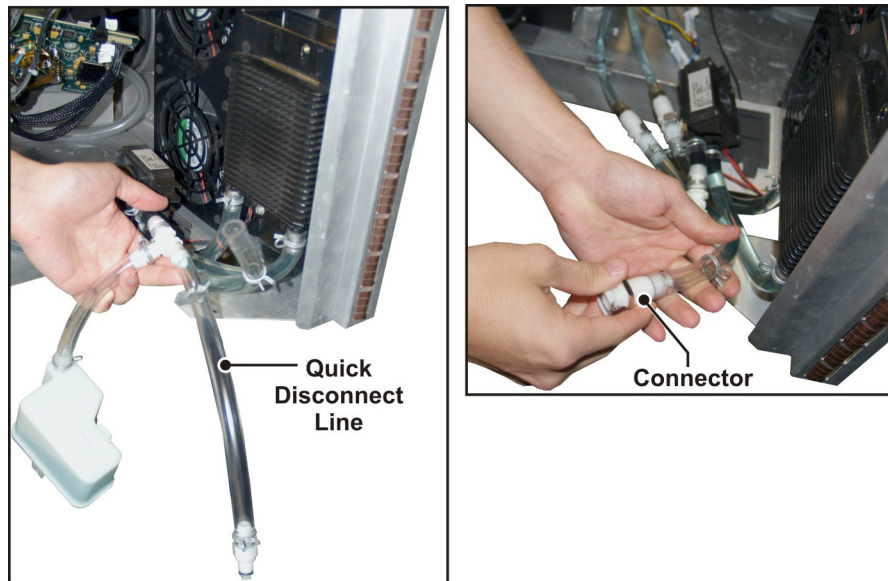

Figure 19 Install Stopper and Female Connector
- f. Install a quick disconnect line into one end of the t-intersection and a female connector into the other end. Slide the clamp over the female connector to prevent leaking (**Figure 19**).